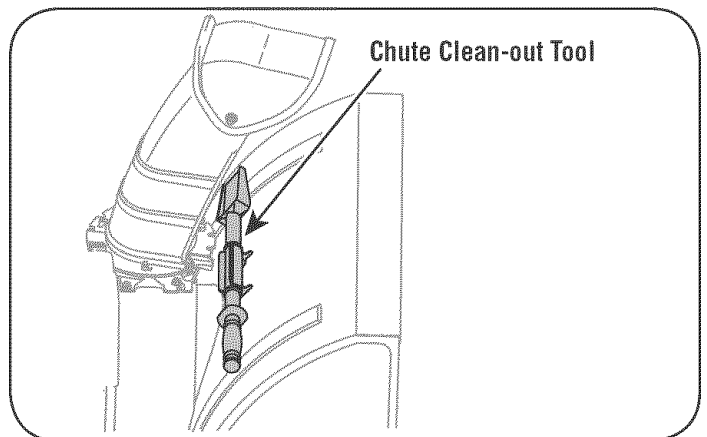

Figure 7
3. Remove the clean-out tool from the mounting clip. See Figure 7.